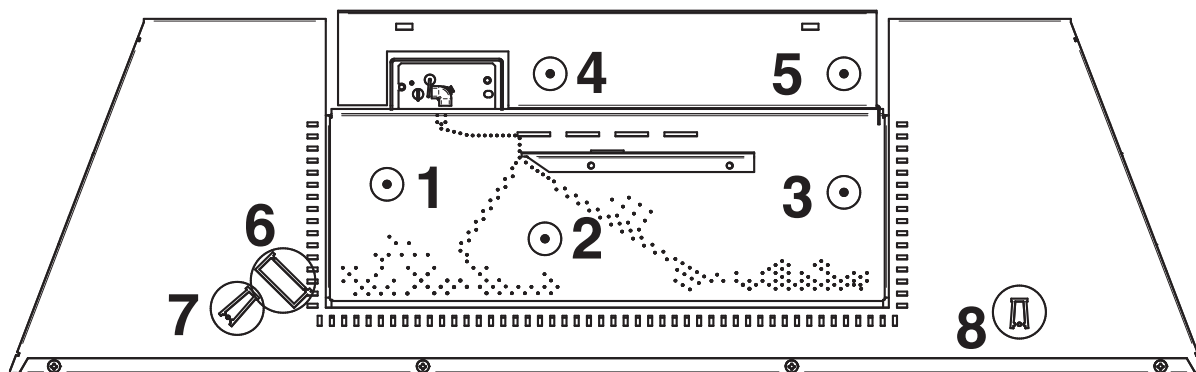

Figure 2: Pins and tabs location
STEP 1: Lift the tabs 6, 7 and 8 located on the burner cover as shown in figure 2.